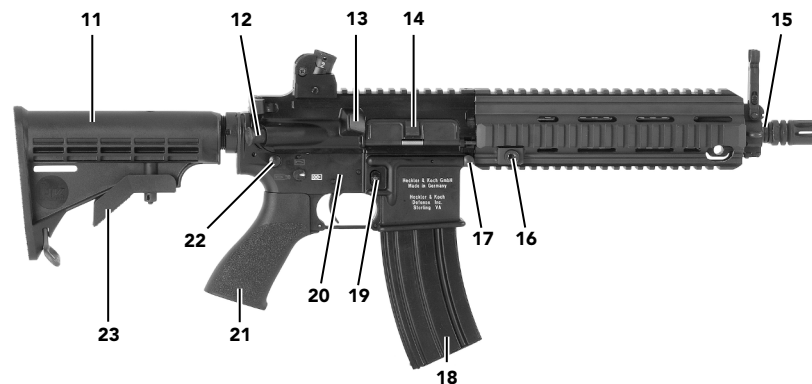

Fig. 2: HK416 D10RS with HK diopter rear sight and MP5 type flip-up front sight, operating controls, right side view
- 11. Sliding Buttstock** – Attached to the weapon via the receiver extension. The sliding buttstock is ambidextrous and adjustable to 6 positions for length of pull by squeezing the Release Lever. It also contains the rear sling swivel which allows the operator to attach the sling to the weapon. Optional buttstocks can be attached to the HK416 as required (Fig. 2/11).
- 12. Forward Assist** – Ensures that the bolt is fully closed and locked. The forward assist is used when the round is not fully chambered. You can push on the forward assist until the bolt seats the cartridge fully into the chamber. It will return to its rearward position by spring pressure. It can also be used to silently load the weapon (Fig. 2/12).
- 13. Case Deflector** – Built into the upper receiver, deflects the cartridge cases away from the operator (Fig. 2/13).
- 14. Ejection Port Cover Assembly** – The ejection port cover is attached to the upper receiver and is spring loaded. It will open automatically if the charging handle is pulled to the rear or if the weapon is fired and can be manually closed at any time. It closes over the ejection port to prevent sand, dust, etc. from entering the chamber. It should remain closed when the weapon is not being fired (Fig. 2/14).
- 15. Barrel Assembly** – The chamber accepts the cartridge for firing and directs the projectiles down range. The barrel (Fig. 2/15) is cold hammer forged and has standard land and groove rifling with a 178 mm (1 in 7”) twist. The barrel is pressed into the upper receiver assembly and held in place by the threaded barrel nut which can be removed with the use of the HK Multi-Tool by the Unit Armorer.
- 17. Pivot Pin** – The pivot pin allows the upper receiver to pivot when the rear takedown pin is depressed. When both the pivot pin and rear takedown pin are depressed, the upper and lower receiver groups can be separated. The pivot pin is captive and should not be removed (Fig. 2/17).
- 18. Magazine Assembly** – Holds cartridges ready for feeding and provides a guide for positioning cartridges for stripping. The magazine provides quick reload capabilities for sustained firing. The HK High-reliability 30-round steel magazine and optional 20-round steel magazine have a steel follower that will not cant during the feeding process. The spring is stronger and more reliable than standard magazine springs. A more detailed description of this magazine is included on page 27 of this manual. The HK416 can be used with magazines of all capacities (Fig. 2/18).
- 19. Magazine Catch/Magazine Release** – Holds the magazine (in place) in the magazine well and allows the operator to release the magazine and remove it from the weapon. The magazine catch is activated automatically when the magazine is properly inserted into the magazine well. The magazine catch is spring loaded and when the button is depressed, the magazine will drop free from the weapon when this control is activated (Fig. 2/19).
- 20. Lower Receiver** – Contains the fire control system for the weapon. The lower receiver contains the hammer, trigger, disconnect, sear, magazine well, magazine catch/release, bolt catch/release, selector lever, buttstock assembly with buffer and recoil spring, pistol grip and trigger guard. The lower receiver is made from an aluminum forging and provides a beveled magazine well to speed reloading (Fig. 2/20).
- 21. Pistol Grip** – The pistol grip is made so it can be used by a left or right handed shooter. It has a trapdoor on the bottom so extra batteries may be stored for accessories (Fig. 2/21).
- 22. Rear Takedown Pin** – When the rear takedown pin is depressed, it allows the upper receiver to pivot on the front pivot pin. This pin is captive and should not be removed (Fig. 2/22).